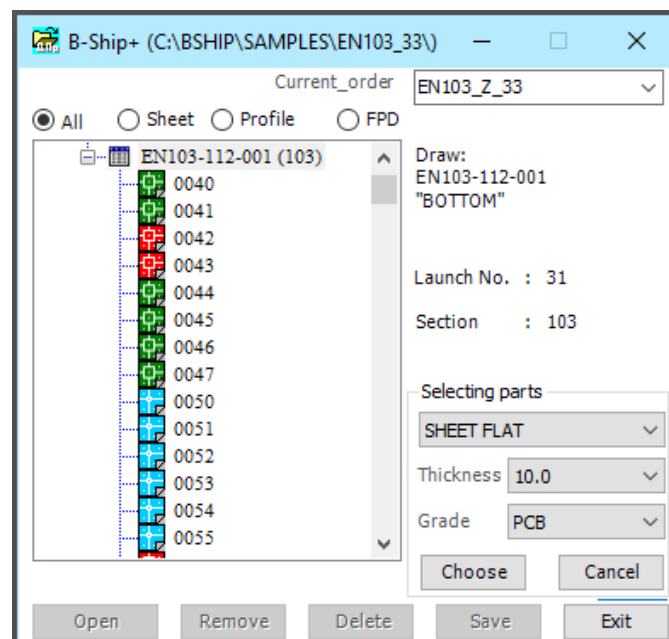

Figure 168
At the bottom left of the window is the input box **Find a part** to quickly search for a given position in the tree, you need to enter the number and click Input. If the mouse is "double clicked" in the input box, the window will have the view shown in Figure 168.
**Warning:** When you press the **No** button in the window (Figure 168), there is no importation of the contours of the parts.